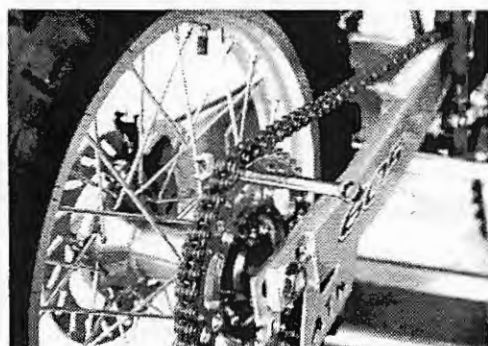

Figure 4.21
3. Place an end wrench between the top of the rear sprocket and the chain, rotate the rear wheel backward until the chain becomes taught. This pulls the rear wheel axle block tight against the adjuster screws. (Figure 4.21)